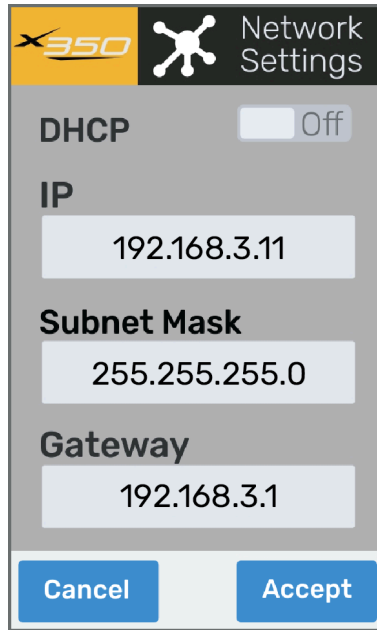

Figure 4.16 — X350 Network Settings
1. On the touchscreen, tap the **Network Settings** button (Figure 4.16).
2. The network settings appear (Figure 4.16).